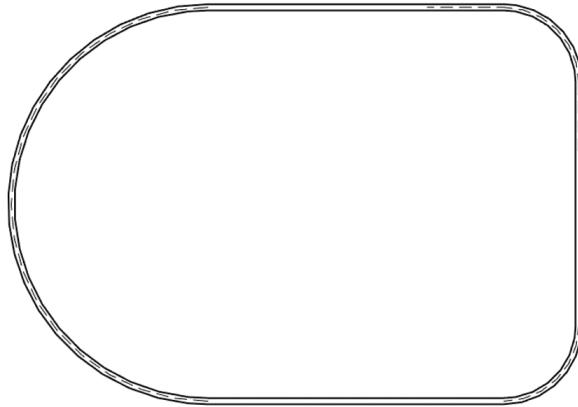

FIGURE 2.7 Results of the Tangent-Fillet Walls steps
7. With the Wall command remaining active, return to the Draw panel in the ribbon, and select the Tangent End Arc option. Click the left end of the wall segment at the bottom of the layout, and then click the left end of the wall segment at the top to complete the tangent arc wall. Your results should look like the plan shown in Figure 2.7.